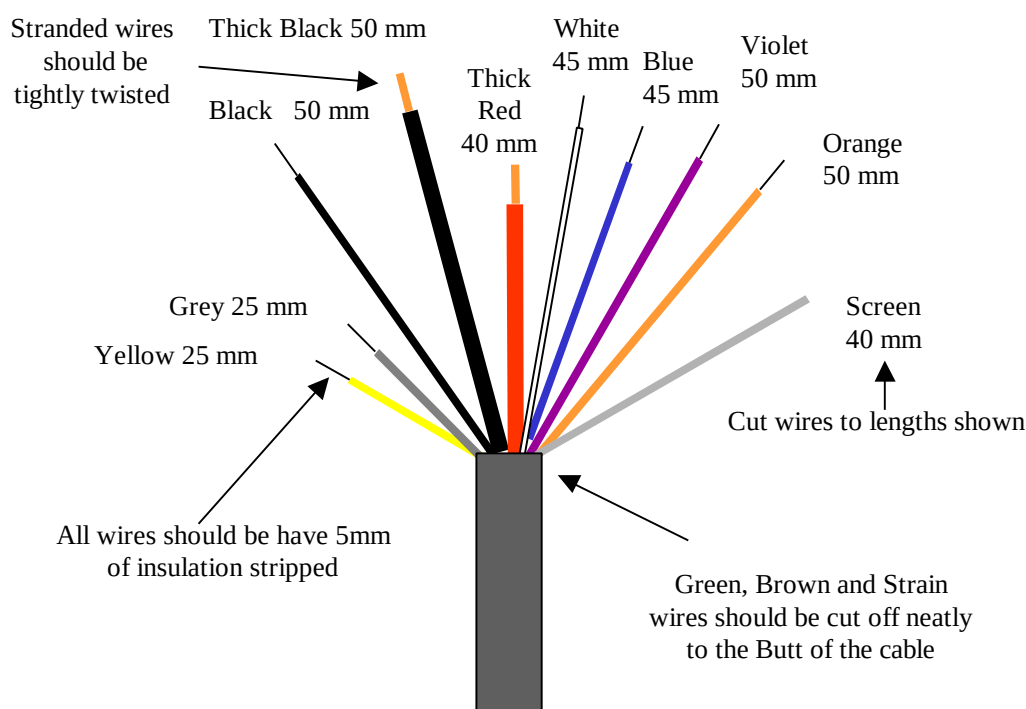

Figure 20. Wire Stripping Dimensions for 80 Metre Drop Cable Lead-Out
3. Strip and terminate the wires of the drop cable as shown in Figure 20.